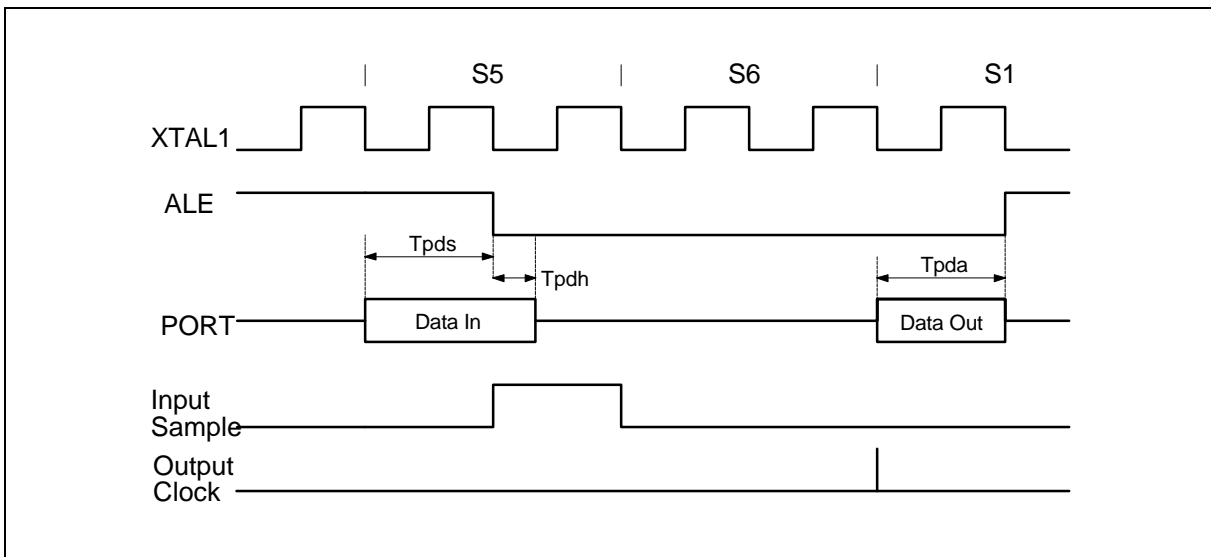

Figure 9. Port Access Cycle
**Port Access Cycle****Port Access Cycle** (see Figure 9)